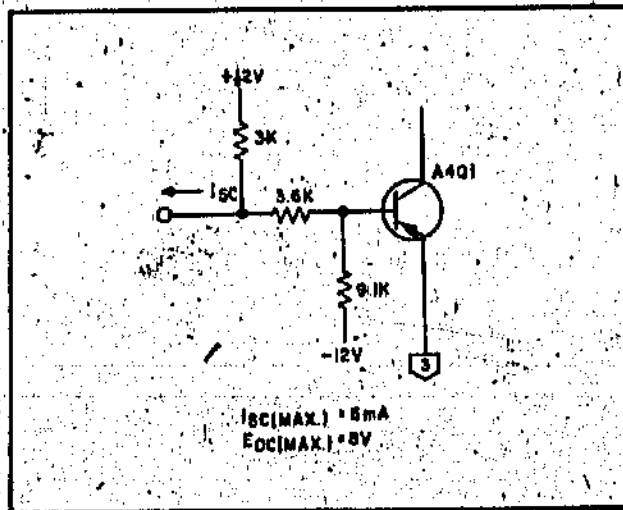

Figure B-3. Cable Continuity Interlock Receiver Circuit
B-30 Cable Continuity Interlock Receiver Circuit. Figure B-3 shows the cable continuity interlock circuit. The three input voltage divider resistors are selected so that a (3) common input will cause A4Q1 to saturate and an open (no input connection) will cause A4Q1 to cut off. The maximum current (ISC-MAX) that could be drawn from the input circuit when the input terminals are short circuited is 6mA. The maximum voltage (ECC-MAX) that appears across the input terminals under open circuit conditions is 6V.